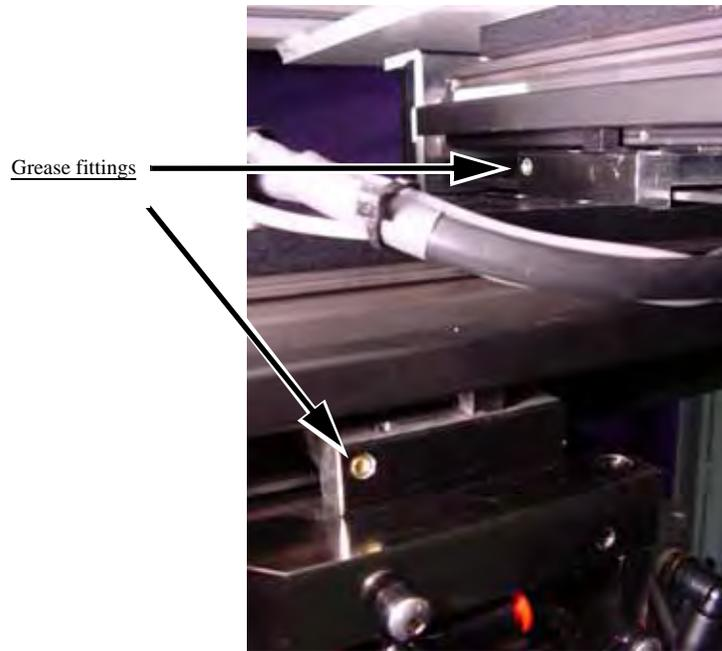

Figure 5-23—Grease fittings
- 3a) Using a THK MG70 (or equivalent) grease gun, apply THK AFB Multipurpose lithium (or equivalent) grease to the lead screw grease fittings. See Figure 5-23.